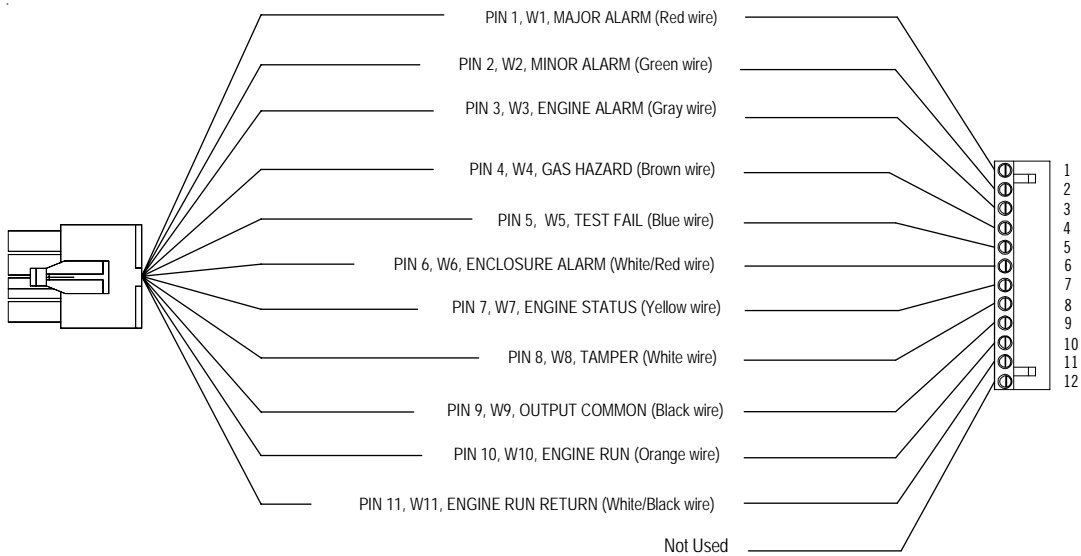

Fig. 3-2 Standard Transponder-to-ECM interconnect cable, **collocated** applications
The ECM also provides a transponder interface for remote status monitoring as shown in figure 2-1, item 9. The transponder interface consists of a 12-position terminal block with 8 optically-isolated output signals and one switch closure input signal. The wiring diagram for the transponder interface is shown in Figure 3-2, with the following signals mapped to the transponder interface terminal block as shown in below.